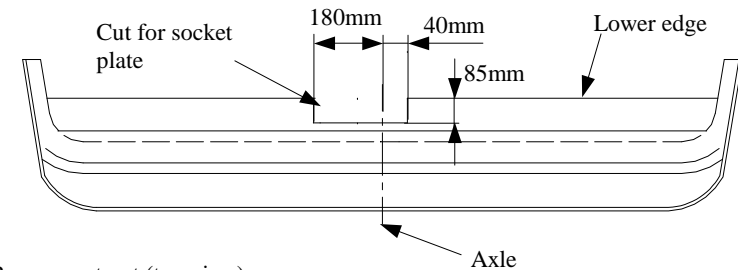

Fig. 2 Bumper cut out (top view)
3. Slide the bar (pos. 1) into the chassis and then fix with M10x40mm bolts (pos. 5) with big washers $\varnothing 30 \times \varnothing 10,5 \times 2,5$ mm (pos. 8) from the towbar equipment. Choose holes depend on car type.
5. Fix body of the automat (pos. 7) using bolts M12x25mm (pos. 4) from accessories. Place tow-ball (pos. 2) according to supplied instruction.
6. Fix the socket plate (pos. 3) as shown on the drawing.
7. Cut the bumper according to figure 2 and mount it to the car.